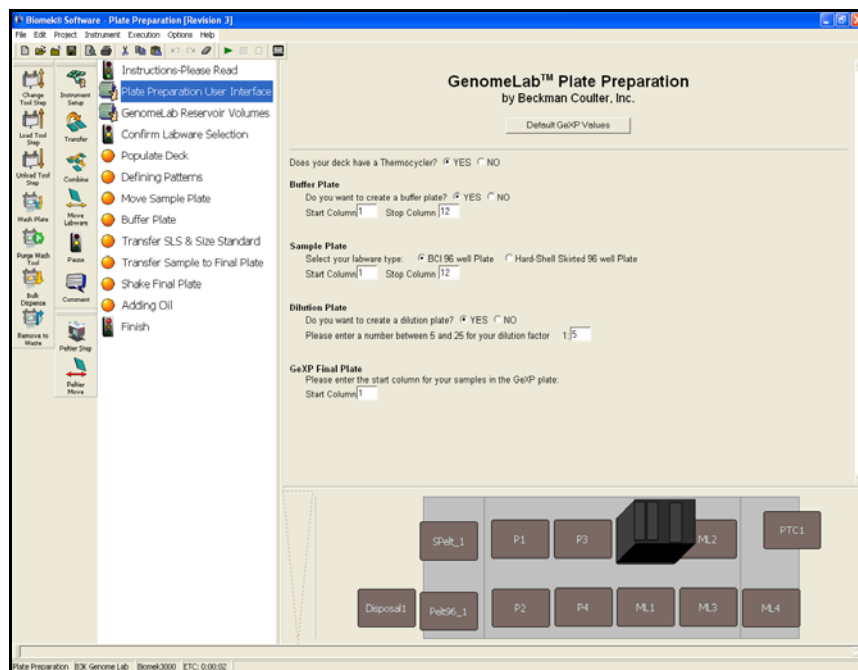

Figure 1-19. Plate Preparation User Interface step
6. Select the Plate Preparation **User Interface** step (Figure 1-19).